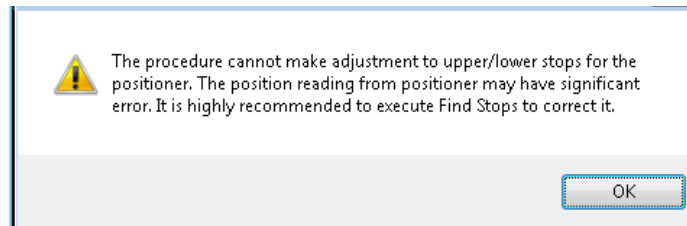

Figure 111 - Execute Find Stops Recommendation
- **Yes** if the valve has moved and Figure 111 appears.